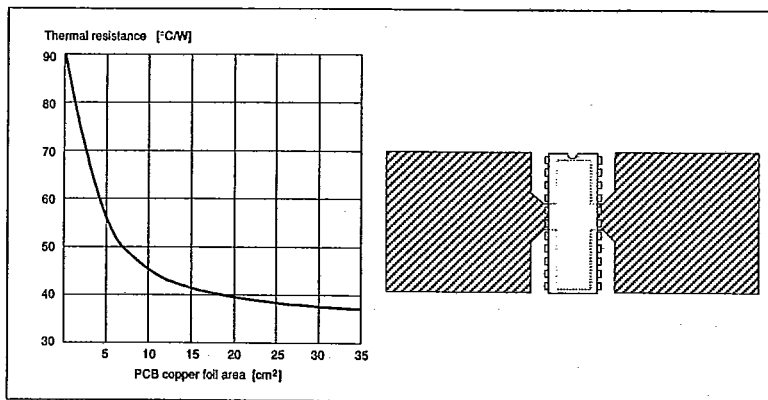

Figure 5. Thermal Resistance vs. PC Board copper area and suggested layout.
Heat sinking. Soldering the four center pins onto a free PCB copper area of 20 cm² (approx. 1.8" x 1.8", copper foil thickness = 35 μm) permits the circuit to operate with a maximum of 320 mA output current, both channels driving, at ambient temperatures up to +70°C. Consult figures 5 and 6 in order to
* For the DIP, the four ground pins soldered to a 20 cm² ground plane according to figure 5. For the PLCC, all ground pins are soldered to a 20 cm² ground plane located as close as possible to the device and on both sides of a double sided PCB.